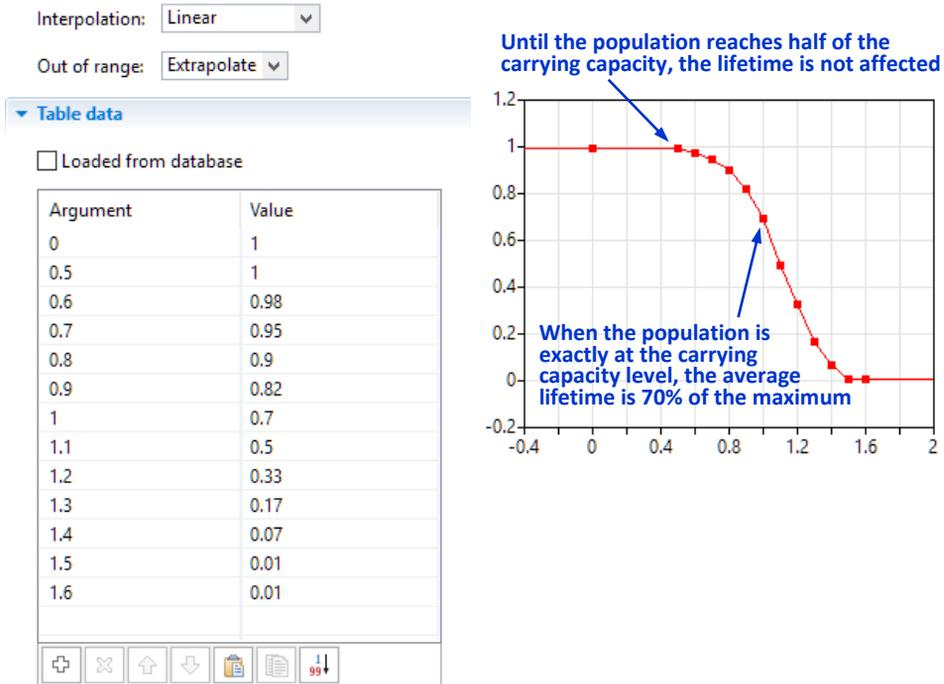
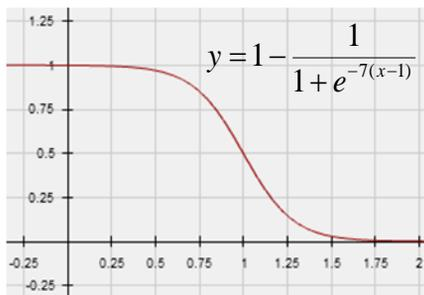

Figure 5.17 The table function `EffectOfCrowdingOnLifetime`
Figure 5.19 The effect of crowding on births is modeled by an analytic function
10. Expand the **Table data** section of the table function properties and fill the table, as shown in Figure 5.17.
We will assume that crowding affects the birth rate in a similar way to how it affects lifetime: the more crowded the habitat, the fewer individuals born. This time, we will use an analytic function of shape similar to the table function in Figure 5.17. The function and its graph are shown in Figure 5.19. The formula structure has no specific relation to the population dynamics; it just has been chosen because of its graph shape.
2. Type the formula for **BirthRate**, as shown in Figure 5.19.